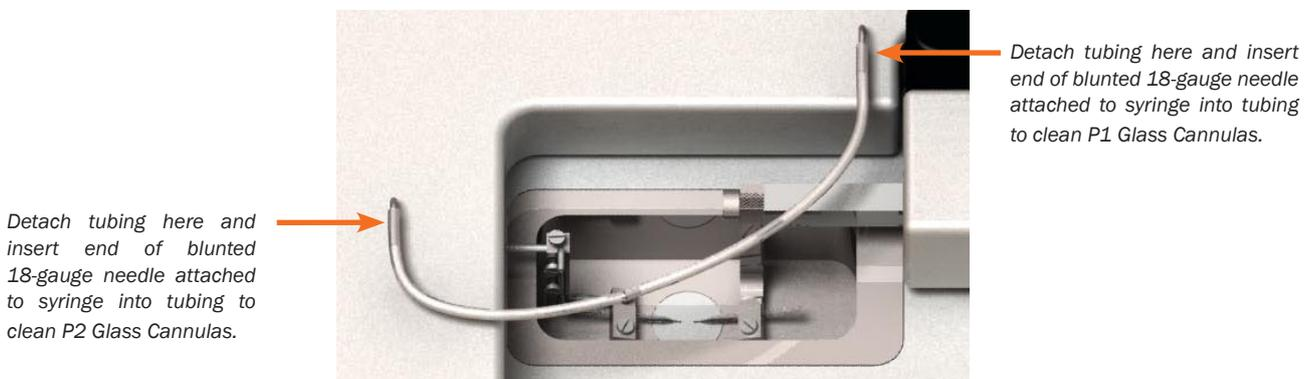

Figure 4.1 Chamber close-up
4. To clean the Glass Cannulas, attach the syringe with needle at the point in the chamber indicated at figure 4.1.
12. Repeat steps 3 through 11 on the P2 Glass Cannula. Attach the syringe at the point in the chamber as indicated in figure 4.1.